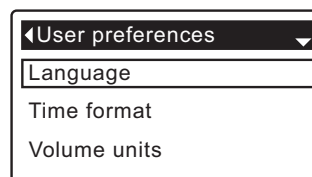

FIG. 49
3. Press the SELECT (O) button to display the User preferences menu (See Figure 49).
7. Press the SELECT (O) button. The display will go back to the User preferences menu (Figure 49).